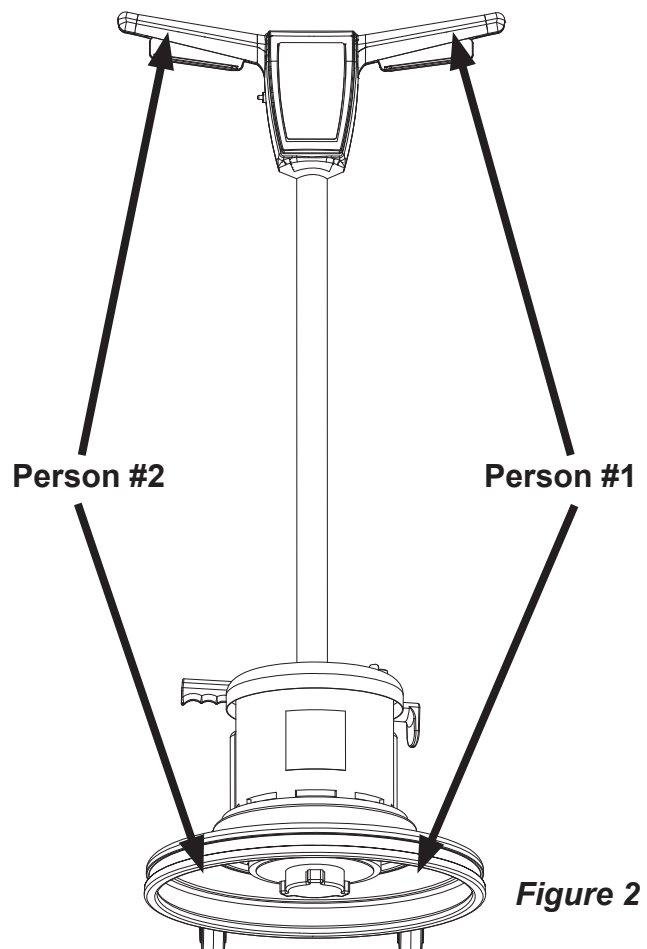

Figure 2
3. To pick up the machine, using two people, lift and place in cargo area (See Figure 2).